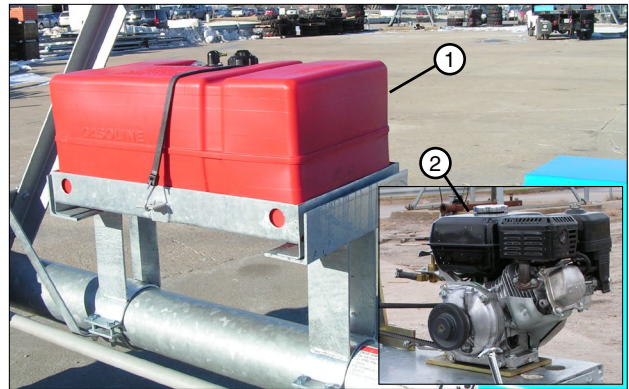

Figure 15-1 1. Auxiliary Fuel Tank
2. Check and fill the auxiliary and/or main fuel tank(s) to the desired level with the correct grade of gasoline as specified in the engine owner's manual. See figure 15-1.